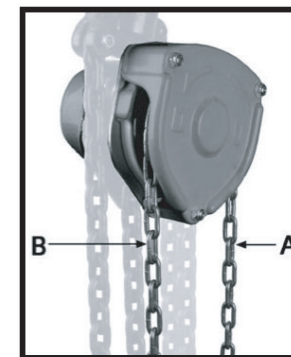
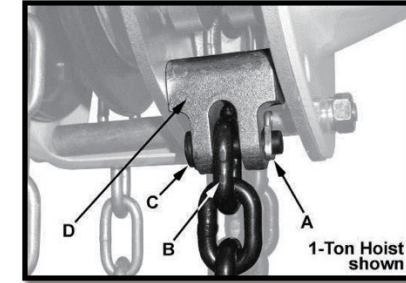

FIG 5
FIG 11
To raise load, pull right side of hand chain (A, FIG 5) so that wheel turns clockwise. To lower load, pull left side of hand chain (B, FIG 5) so that wheel turns counterclockwise.
- Remove the old load chain as follows while referring to FIG 11
1. Remove the cotter pin (A) and the chain anchor pin (C) on the chain anchor (D), allowing the end of the chain to fall free.
2. Pull the hand chain (FIG 5) until load chain is completely removed from gear assembly.
Referring to FIG 11: